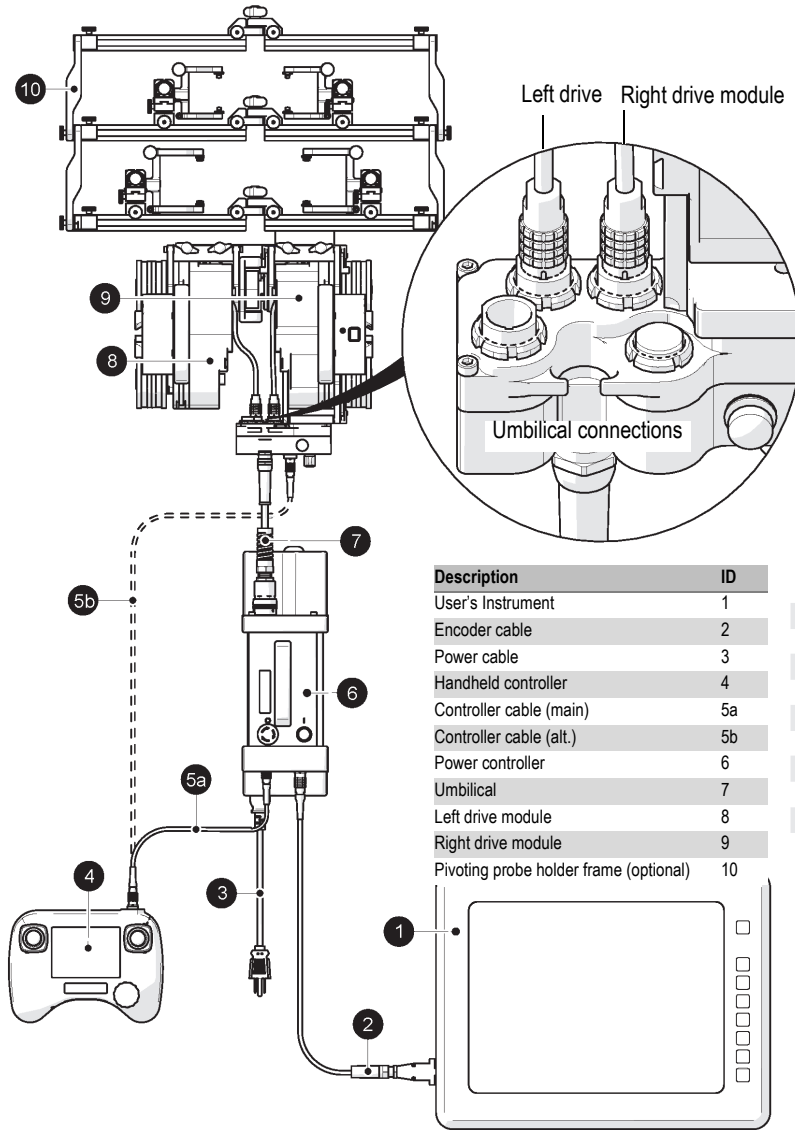

Figure 3-4 Pivoting probe holder frame (optional) configuration
1. Connect the power controller to the umbilical (see Figure 3-4 on page 160).